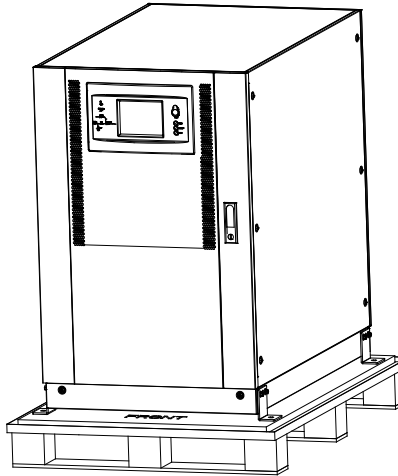

Fig.3-5 Remove the protective foam
4. Remove the protective foam around the cabinet (See Fig.3-5).